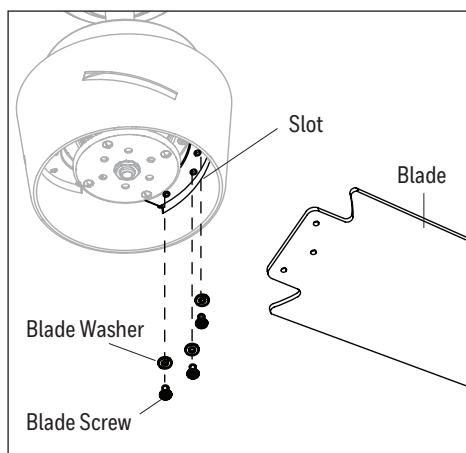

Figure 5.3
3. Insert blade through slot in the side of the motor assembly. Align the holes of one blade with three blade screw holes in underside of the motor assembly. Secure with the three blade screws and blade washers. Repeat this step for the remaining blades (Figure 5.3).